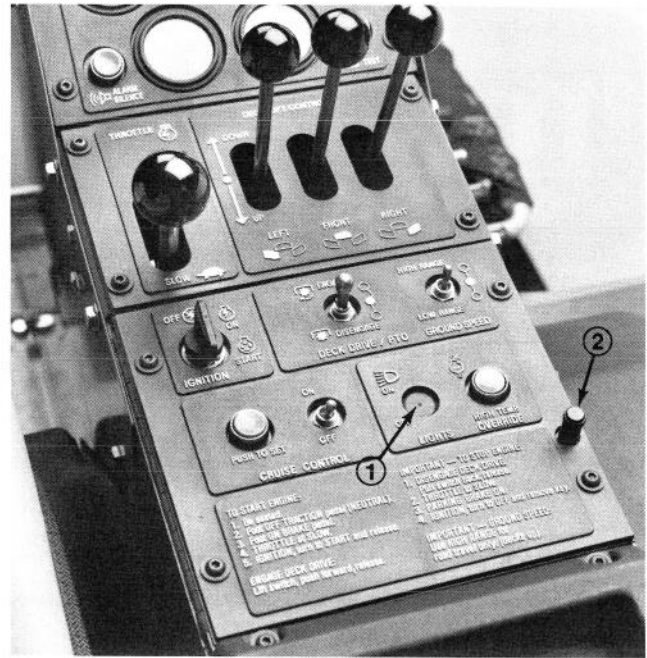

Figure 4
1. Locate light switch mounting location on the control panel (Fig. 4).
2. Open the control panel cover. Use a punch and hammer to knock the plug out at the mounting location (Fig. 4).